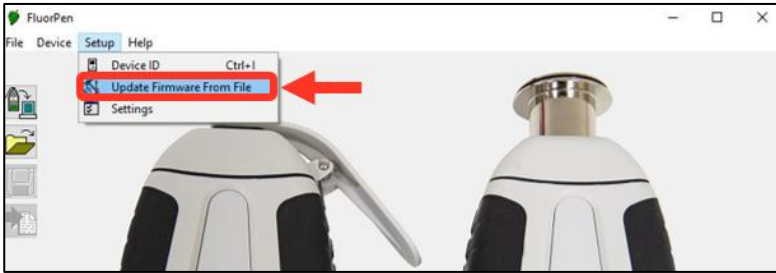

Fig. 29 Firmware Update.
1. Starting Update: Select Setup > Update Firmware From File (Fig. 29).